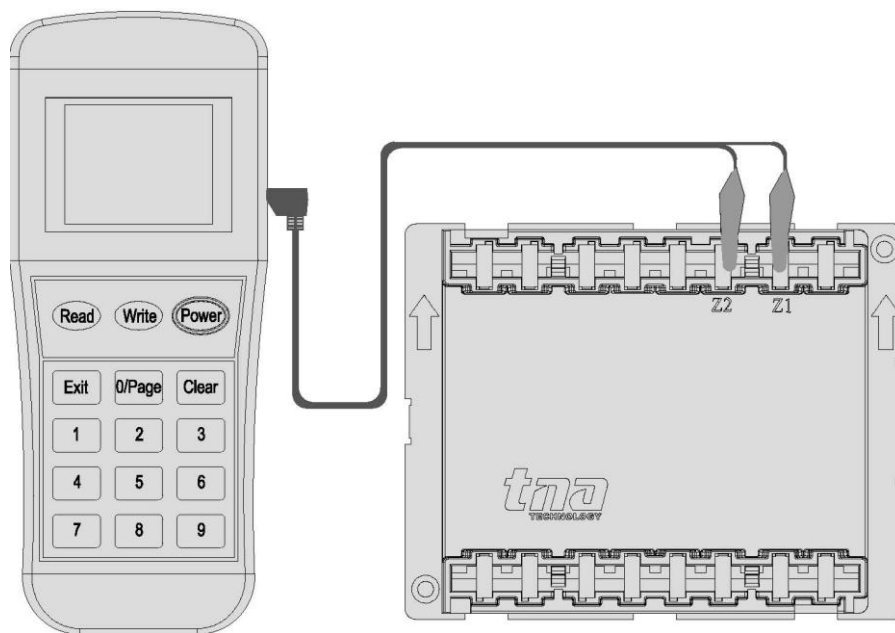

Figure 3
1. Connect the programming cable to Z1 and Z2 terminals (Figure 3). Press **"Power"** to switch on the unit.
1. Attach the programming cable Z1 and Z2 terminals (Figure 3). Press **"Power"** to switch on the unit.